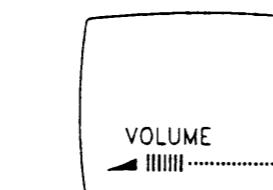

Fig 6.
- Adjust CT601 for adjust lettering to centre of the screen (see fig 6).